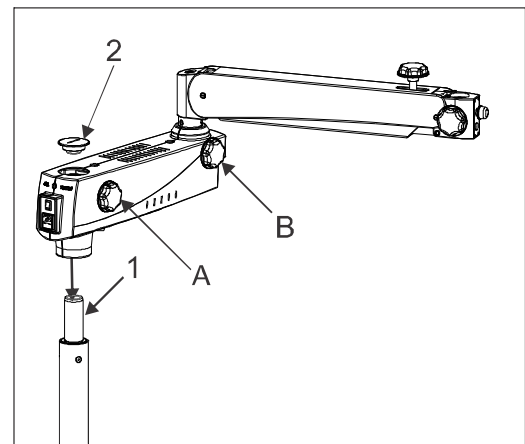

Fig. 3
- 7.3 Retrieve the swivel arm and suspension arm assembly from the packing box and follow instruction as below (refer Fig. 3)
- Install the swivel arm assembly on the upright holding shaft (1) figure 3.
- Lock the swivel arm with threaded screw (2) from the top.
- Loosen suspension arm locking (B) knobs so that it can be rotated.